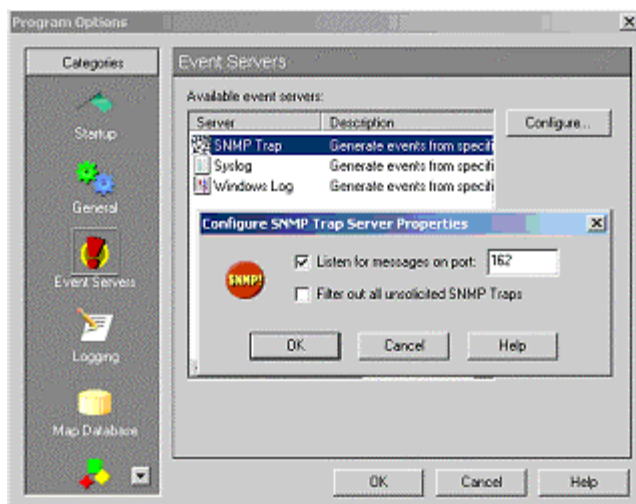

Figure 9 Configure SNMP Trap Server Properties
2.4 Press Configure button to open Configure SNMP Trap Server Properties dialog box shown in Figure 9.